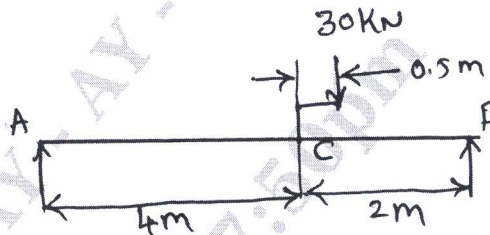

Fig.Q7(b)
b. Find the deflection at C in the beam loaded as shown in Fig.Q7(b). Takes  $EI = 10,000 \text{ kN-m}^2$ .